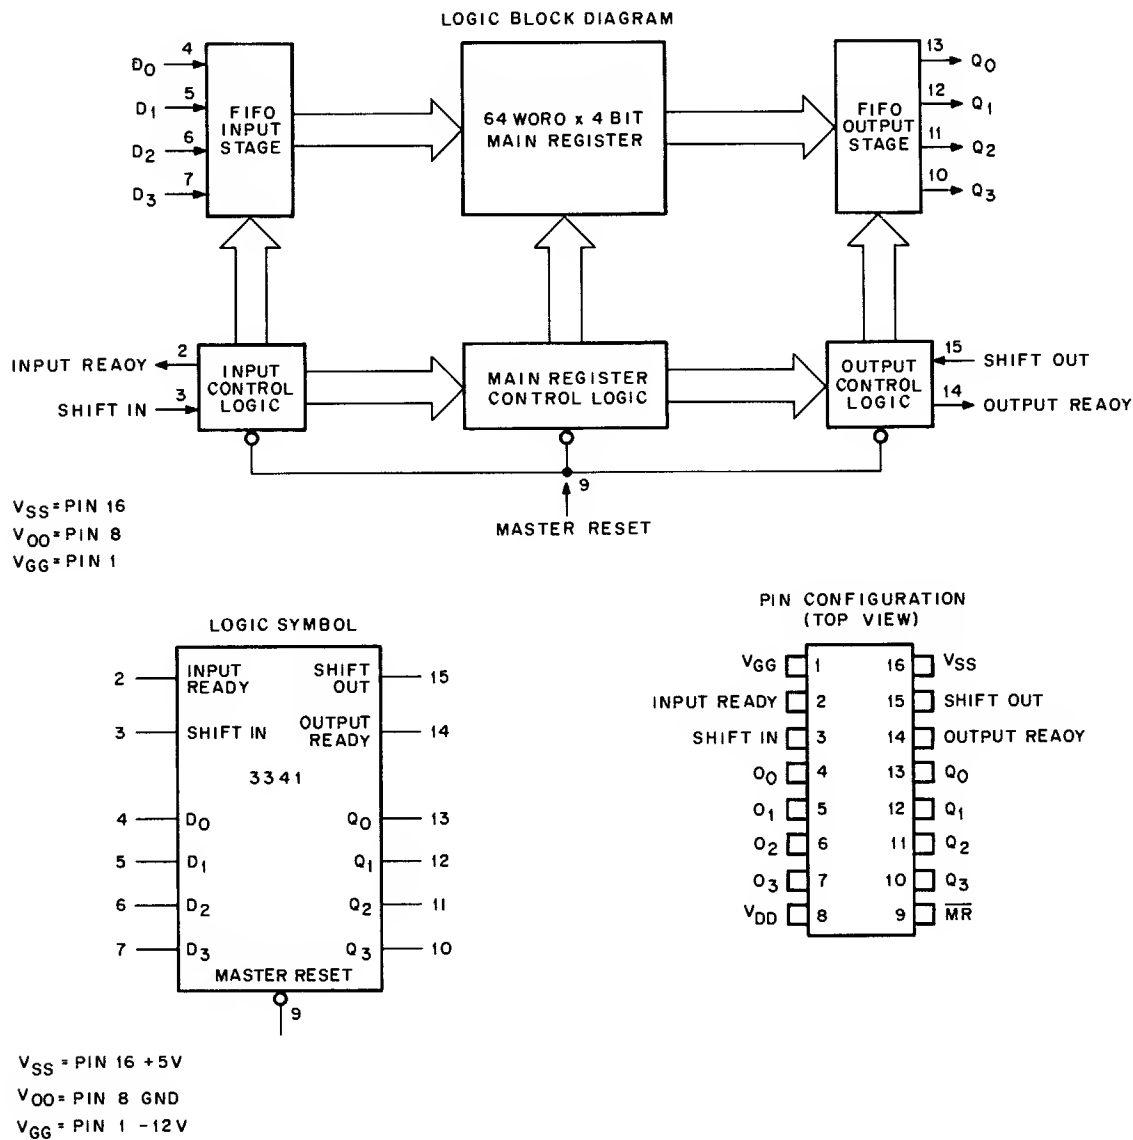

Figure A-1 3341 4-Bit X 64-Word Propagateable Register
A.2 3341 4-BIT X 64-WORD PROPAGATEABLE REGISTER (FI/FO) (Figure A-1)